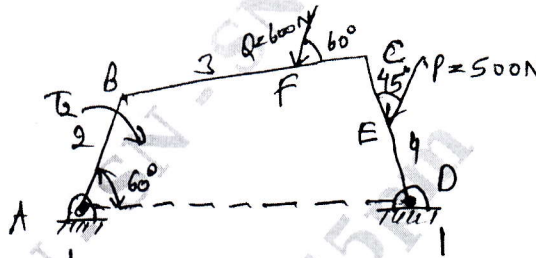

Fig.Q1(b)
- b. A four bar mechanism under the action of two external forces is shown in Fig.Q1(b). Determine the torque to be applied on the link AB for static equilibrium. The dimensions of the links are AB = 50mm, BD = 66mm, CD = 56mm, CE = 25mm, CF = 30mm, BAD = 60° and AD = 100mm. Refer Fig.Q1(b).